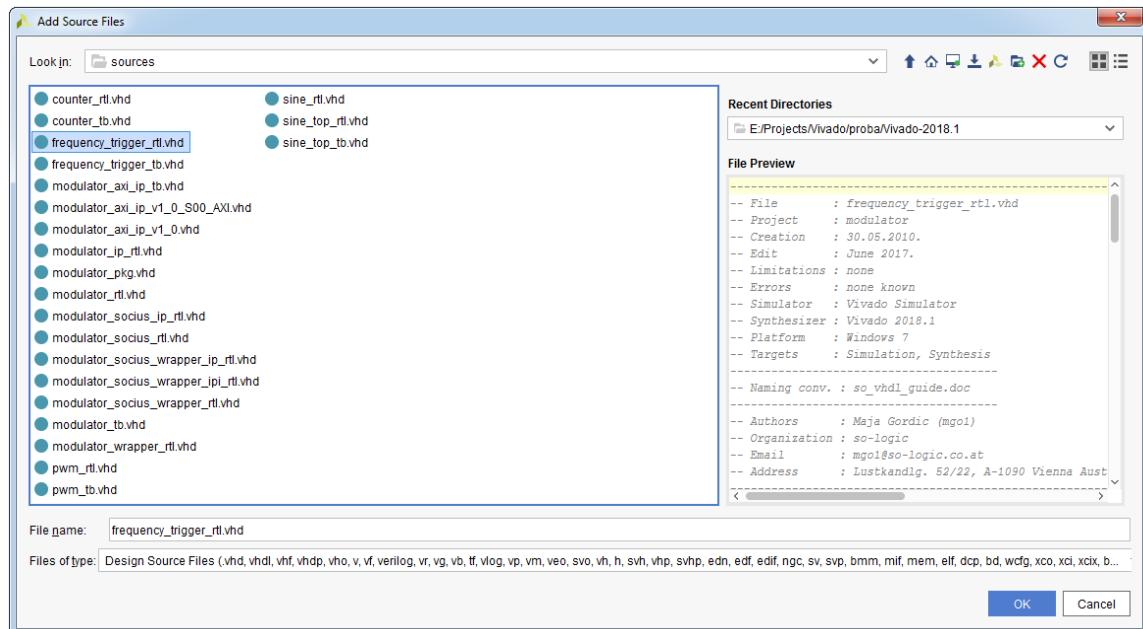

Figure 2.25: Add Source Files dialog box
12. In the **Add Source Files** dialog box, browse to the project working directory and select the ***frequency_trigger_rtl.vhd*** source file, see Figure 2.25.